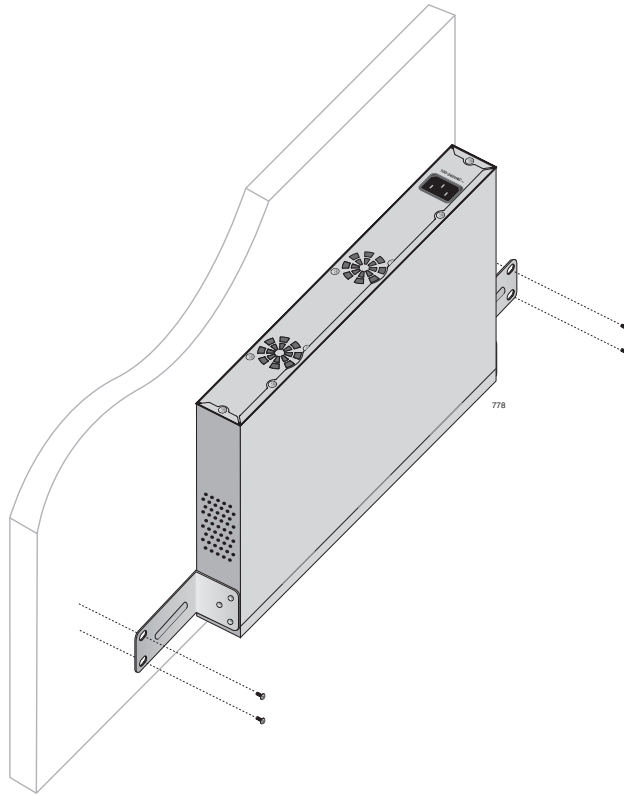

Figure 7. Mounting The Switch on the Wall
5. Mount the switch on the wall using the wall mounting screws (not provided), as shown in Figure 7.